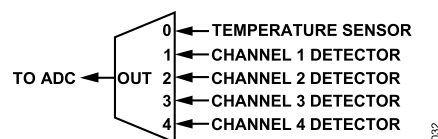

Figure 27. ADC Input Multiplexer Mapping
The multiplexer position can be programmed using the MUX_SEL bits (Register 0x04A, Bits[3:1]). The multiplexer has five valid states, from 0 to 4. Figure 27 shows the multiplexer mapping.
- ▶ Bit 1 to Bit 3: MUX_SEL (read/write). These bits are used to select the ADC input, according to Figure 27.